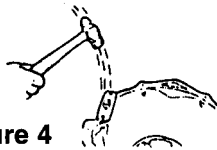

Figure 4
2. Next, insert the combination aligning pin and sleeve drive through the boring fixture, into the case. Use a hammer (**Figure 4**) to pound the combination aligning pin and sleeve driver until it bottoms. Now tighten the two 3/8" nuts to 35 foot pounds.